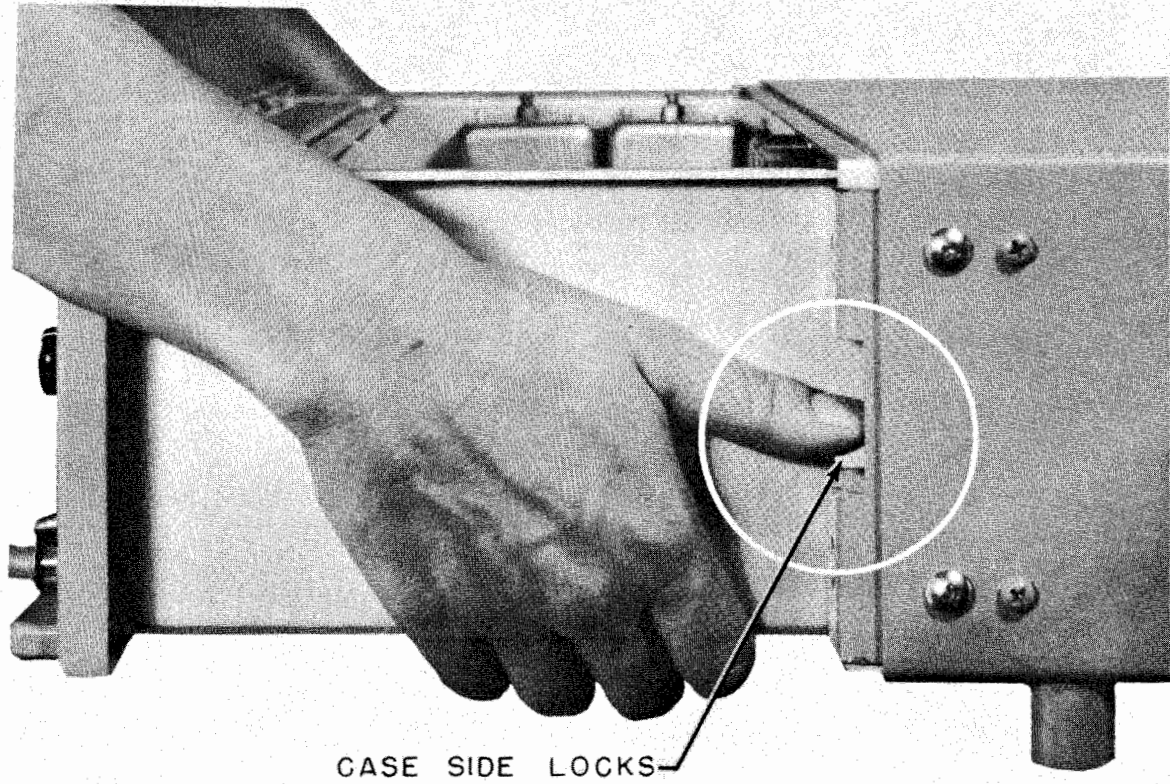

Figure 5-2. Photo—Operation of Case Side Locks
To obtain access to the tubes, unscrew the four fasteners in the corners of the front panel and pull the receiver from the case as far as the mechanical stops will permit. This will permit access to most of the tubes. To check or replace the tubes at the extreme rear of the subchassis, the receiver must be entirely removed from the case. This can be done by pressing down on the two mechanical locks on each side of the case and pulling the receiver out. (See figure 5-2.)
b. TUBE CHECKING.—Access to all tubes is obtained by unscrewing the four Simmons fasteners on the front panel (one-quarter turn counterclockwise), depressing the two side lock latches (see figure 5-2) and pulling the chassis completely out of its case.
(1) Remove the receiver from its case by turning the four Simmons fasteners on the front panel one-quarter turn counterclockwise; pull chassis out as far as the case locks will permit; release these two side locks by depressing the latches on the side of the case and pull chassis out of the case. (See Fig. 5-2.)